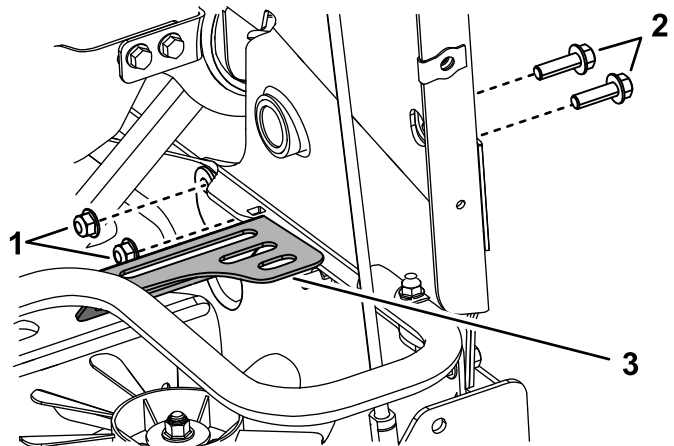

Figure 28
14. Remove the 2 bolts and 2 nuts from the right side of the machine and use them to install fan guard (Figure 28). Torque the bolts to 37 to 45 N·m (27 to 33 ft-lb).